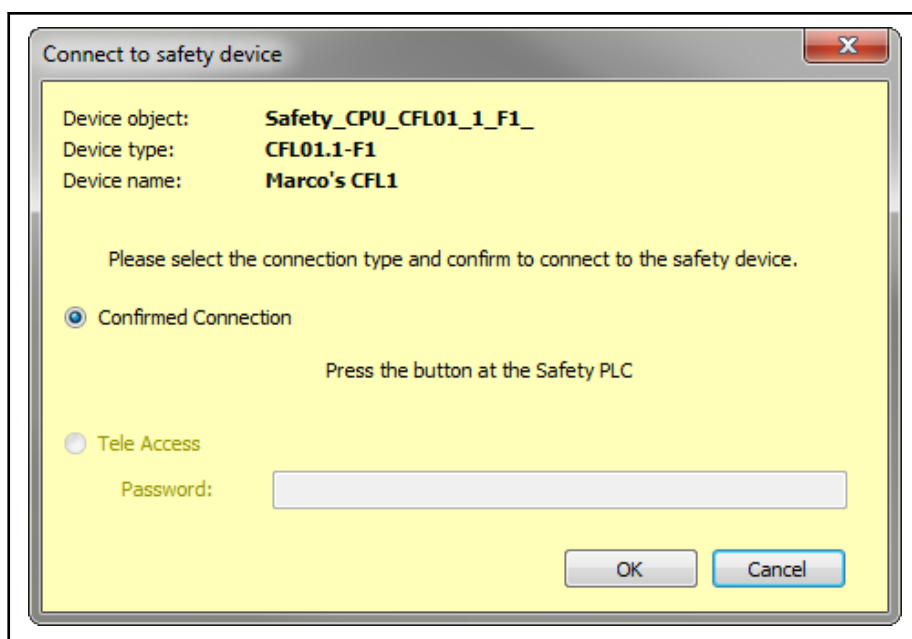

Fig. 8-1: "Connect to safety device" dialog
The node names may have to be changed (fig. 8-1 "Connect to safety device" dialog" on page 117) in the "Connect to safety device" dialog.
If the connection to the control is established, the confirmation button has to be pressed directly on the safety control. A prompt to press the confirmation button on the safety control to confirm the connection appears in the **Connect to safety device** dialog (fig. 8-1 "**Connect to safety device**" dialog" on page 117).
2. Enter a new, unique name in the **Connect to safety device** dialog (see fig. 8-1 "Connect to safety device" dialog on page 117)